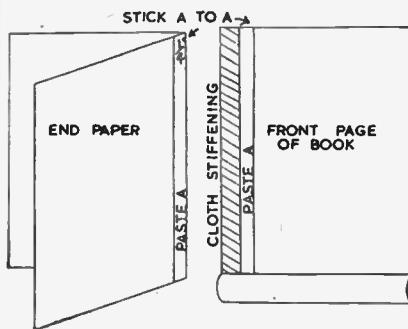
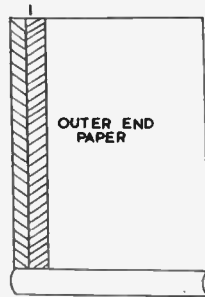
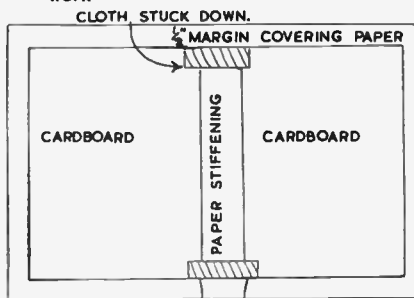

Fig. 1—Marking the end papers and stiffener
Fig. 2—First stage of work
Fig. 3—Marking cover paper and cloth
It is necessary to get wood to the section shown in Fig. 3. The wood can, if necessary (and if available) be quite 6ins. square in section though, as hinted, smaller stuff can be used. In length it should be rather over four times the length of the side. It may be more convenient to make the shaped section in two pieces so that one can work from either end.
The wood is first planed as in Fig. 2, and then shaped as in Fig. 3, using, chiefly, a gouge to complete the shaping. A piece of broken glass used as a scraper will be useful, no doubt. Get a large round bottle and break it with due care. With any luck, one will find a piece that will suit the curve aimed at. It is a good idea to make a cardboard template (shown partly in Fig. 3).
The next step is to mitre four pieces, just like making a picture frame except that, in this case, there is no interior opening. The assembled parts will look like Fig. 1. At this stage there is not a bowl-shaped opening but (if reversed) a kind of vaulted arch,
With this as a foundation, however, a bowl may be scooped. If a circular opening is needed, however, the distance (X) in Fig. 1 (which is the same as X in Fig. 2) must be quite twice as wide as is shown, otherwise the edge of the bowl will come to the edge of the block.
Before doing the final shaping, screws should be inserted as indicated in the upper left corner of Fig. 1, having them about half-way up the thickness of the wood. Take care they will not foul any subsequent shaping. The heads are hidden with plastic wood.
For the final shaping, a sharp penknife can be used to get to the upper parts. Quite an interesting model, however, is made by leaving it at the Fig. 1 stage.
wider than the spine of the book, but again $\frac{1}{2}$ in. shorter. Paste this on so it covers the spine and 1in. of each of the outer end papers (see Fig. 2). The book is now prepared and you can start making the actual cover.
spectively, to form the end papers (see Fig. 1). Next cut a strip of cloth 2ins.
1in. longer than the cardboard and wide enough to allow $\frac{1}{2}$ in. margin at the front edges and to overlap the cloth by about $\frac{1}{2}$ in. If, for instance, the cardboard measures $8\frac{1}{2}$ ins. by $5\frac{1}{2}$ ins., the covering paper will measure $9\frac{1}{2}$ ins. by $4\frac{1}{2}$ ins. Before sticking the covering paper in position, it is a good plan to rule off $\frac{1}{2}$ in. of the cloth at the back and front edges to ensure accuracy, then paste the paper on, smoothing it down well (see Fig. 3). Turn the edges under and stick them neatly to the cardboard. This completes the cover.